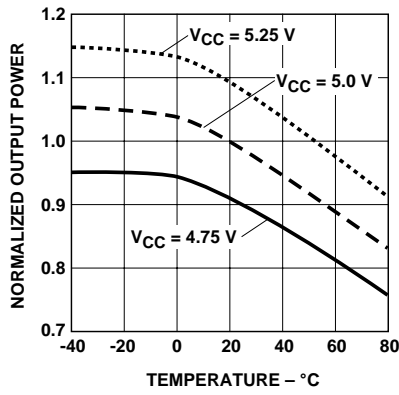

Figure 4. Typical normalized optical power vs. temperature (in recommended drive circuit).
3. Minimum and maximum values for P_T over temperature are based on a fixed drive current. The recommended drive circuit has temperature compensation which reduces the variation in P_T over temperature, refer to Figures 4 and 6.